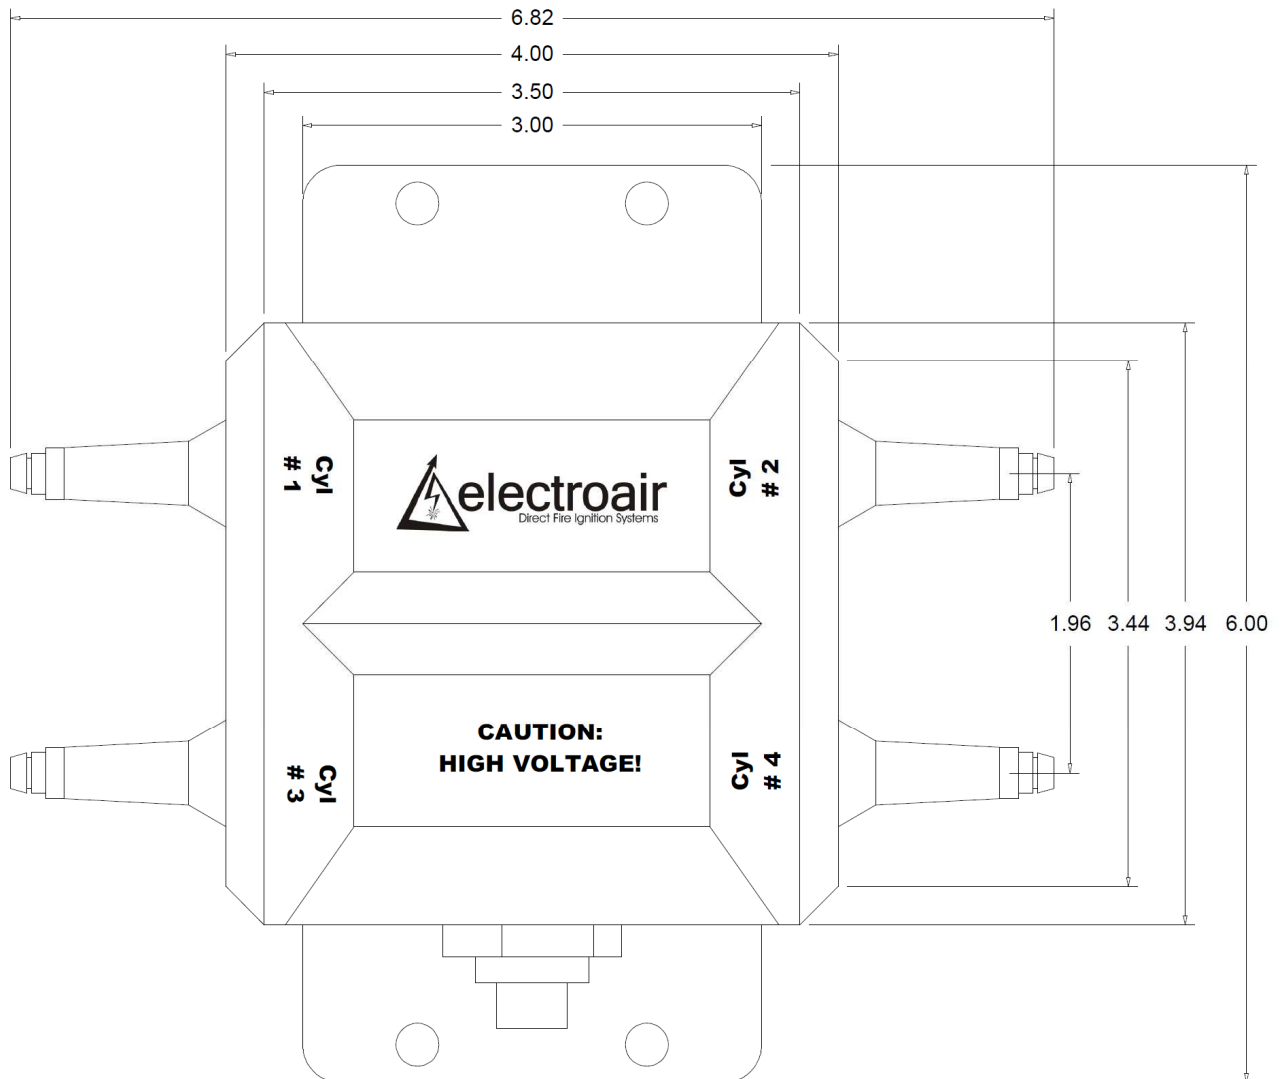

Figure 4.2: p/n EA-2000 Dimensions
- c. **EA-2000 Installation:** The coil pack is designed to be installed on the engine side of the firewall. Locate the unit in a position to keep the spark plug wires as short as possible and not interfere with other components or create maintenance difficulties in the future. Electroair strongly suggests that the Coil Pack be positioned so that the connector on the coil is facing straight down, but can be positioned in any orientation if the installation requires alternate positioning. See figure 4.2 for the Coil Pack Dimensions.